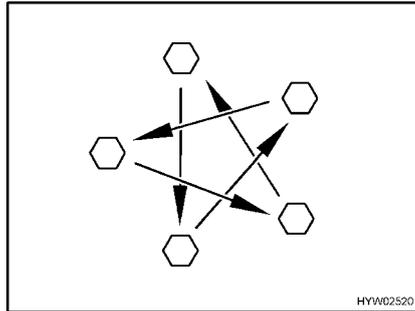

Fig. 198 Tighten the wheel nuts or wheel bolts cross-wise
- Check regularly that the wheel nuts or wheel bolts are firmly seated. Re-tighten the wheel nuts or wheel bolts of a changed wheel after 50 km (30 miles) (Fig. 198).
- When using new or newly painted rims, re-tighten the wheel nuts or wheel bolts once again after approx. 1,000 to 5,000 km (600 miles to 3,000 miles) (Fig. 198).
- ▷ Tighten the wheel nuts or wheel bolts cross-wise (Fig. 198).